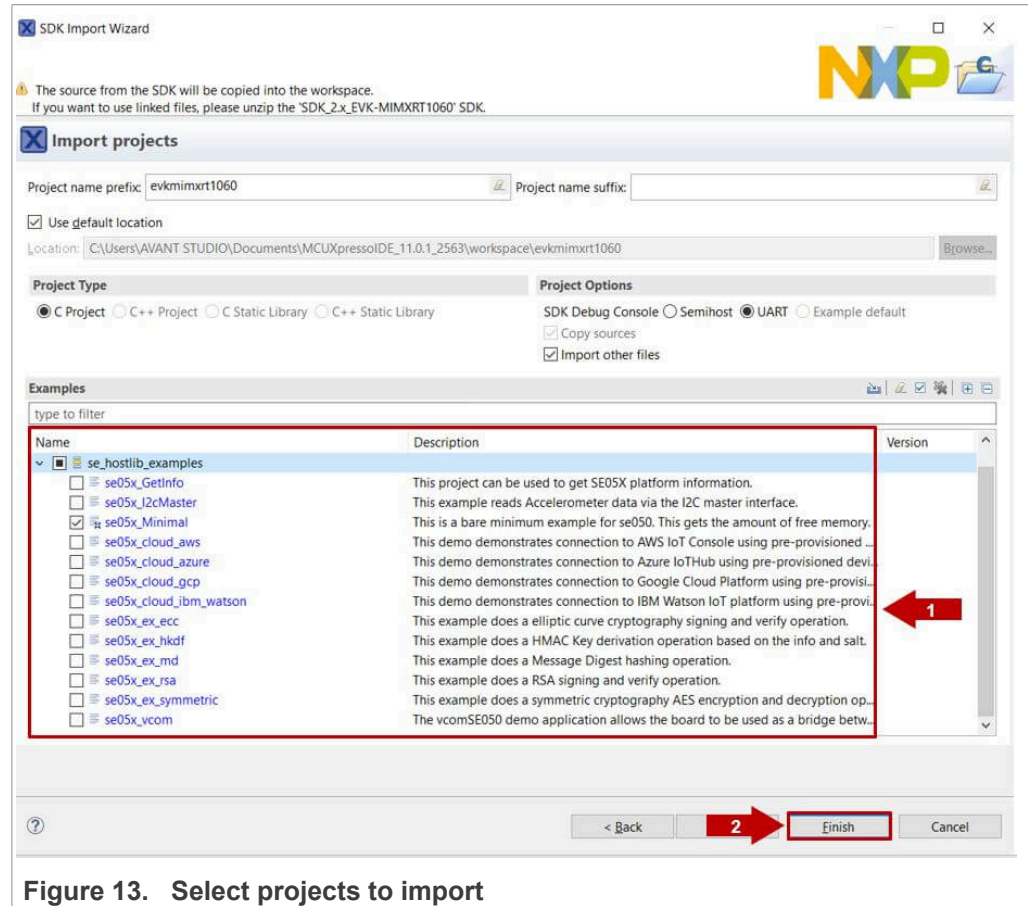

Figure 13. Select projects to import
- Under the `se_hostlib_examples` drop down list, you have the list of supported project examples. Select the examples that you want to import in your MCUXpresso workspace and click on the *Finish* button as shown in Figure 13. In this case, we